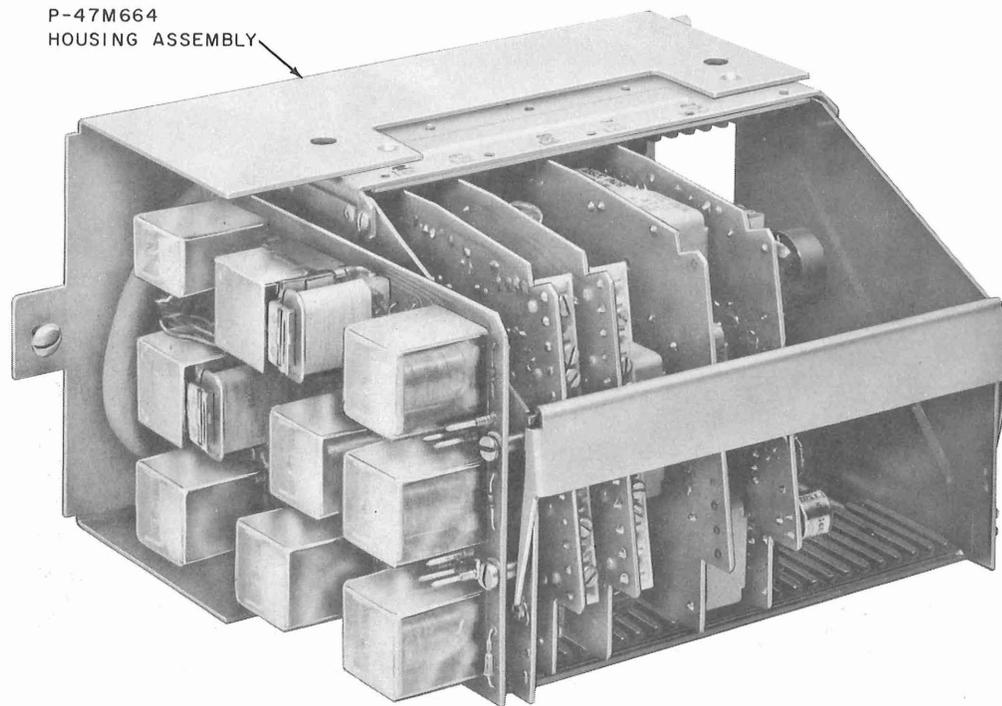

Fig. 5—Data Set 103E5
2.06 Data Set 103E5 (Fig. 5) contains four circuit pack units and a relay board. These units are designated as follows: